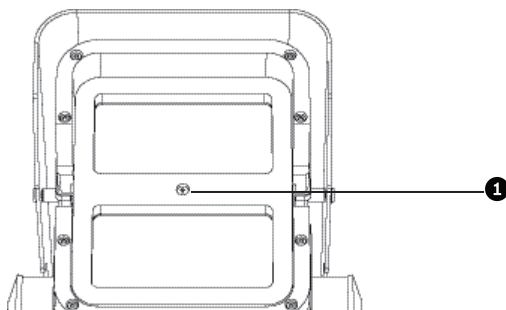

Figure 6.6 Slot for set screw for adjusting angle of LED tilt
2. Insert the set screw in the screw slot (item 1, *Figure 6.6*) between the camera window and the LED window in the front of the camera.